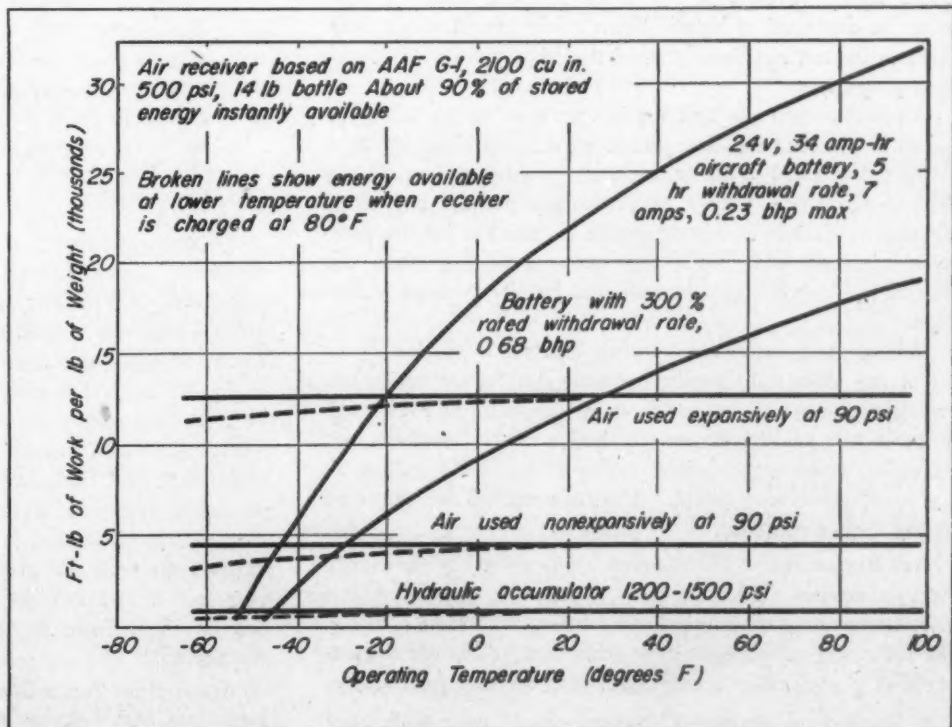

Fig. 13—Right—General comparison of various energy storage systems
3. Weighs less than any other energy storage device for moderate or high withdrawal rates, Fig. 13
6. Extremely small output variation with temperature change, Fig. 13